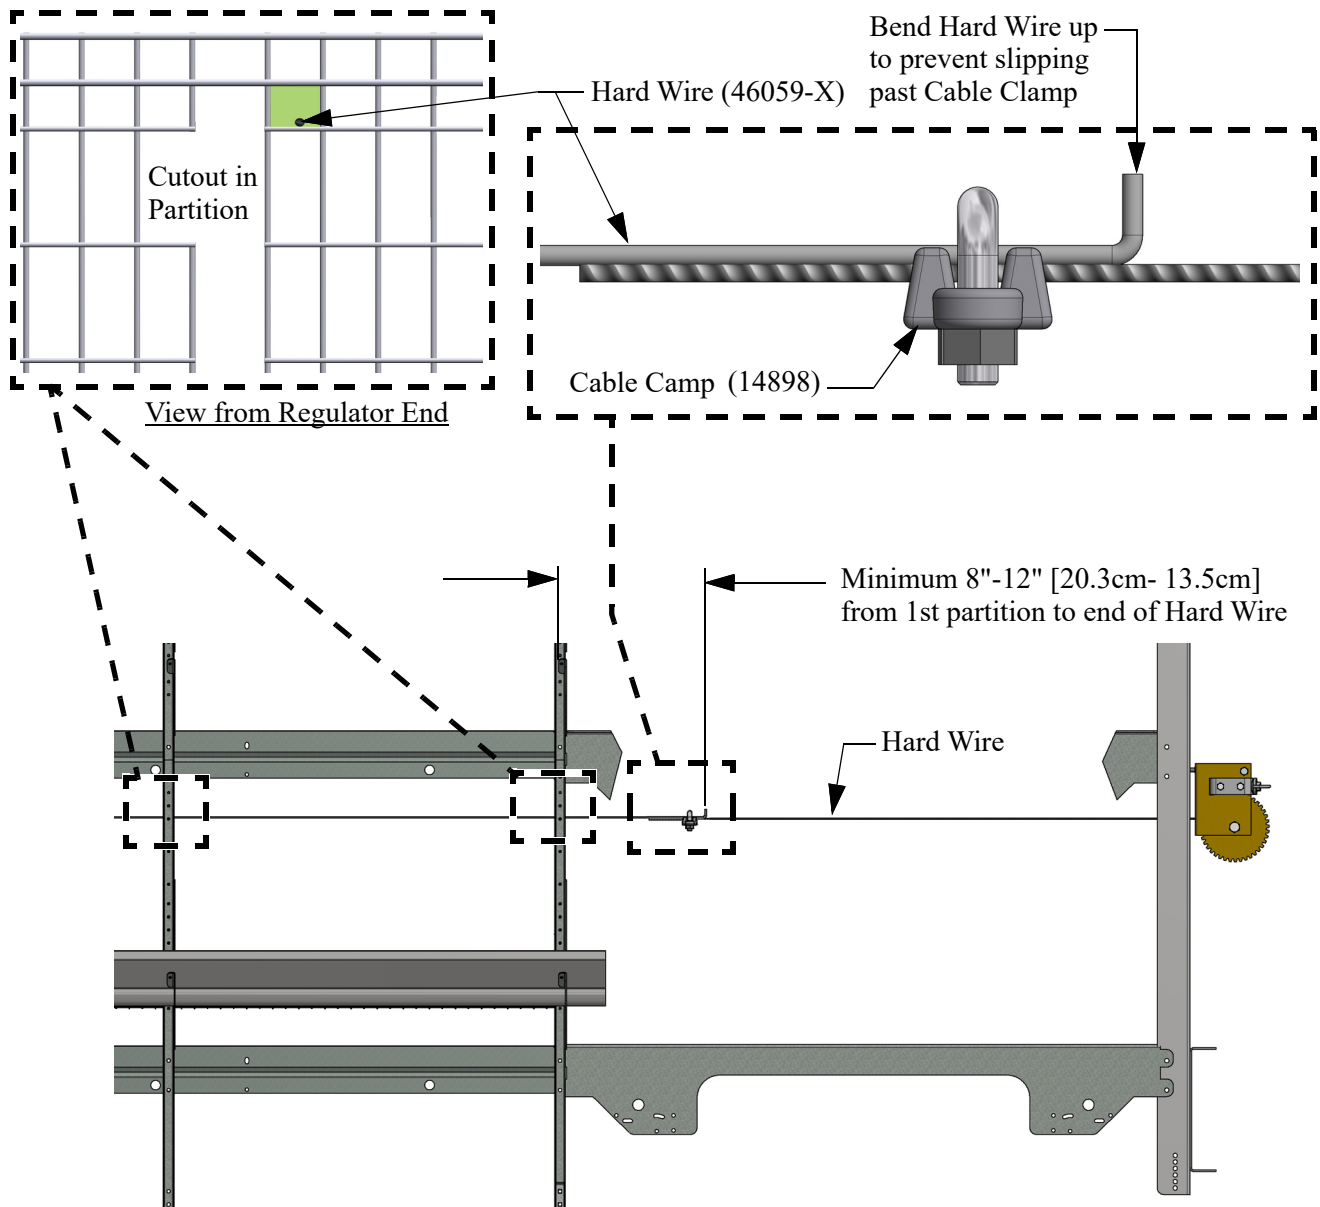

Figure 6.Hard Wire Installation
1. Install Hardwire (46059-X) starting at the Winch end by feeding it through the Partitions in the location shown below in **(Figure 6.)**